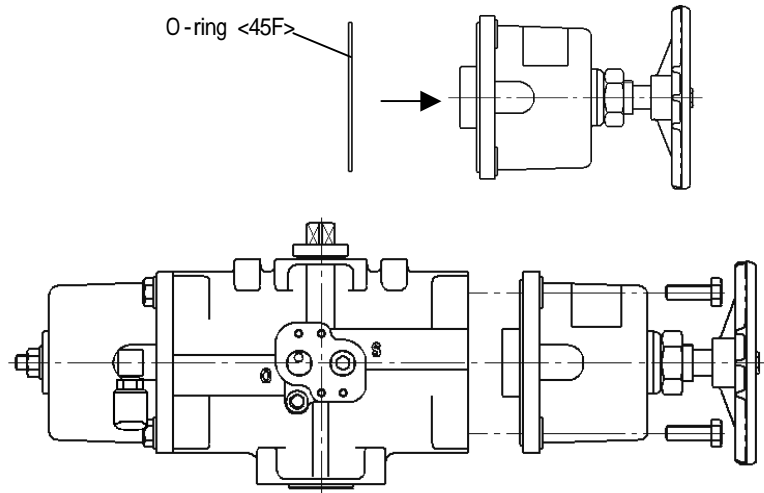
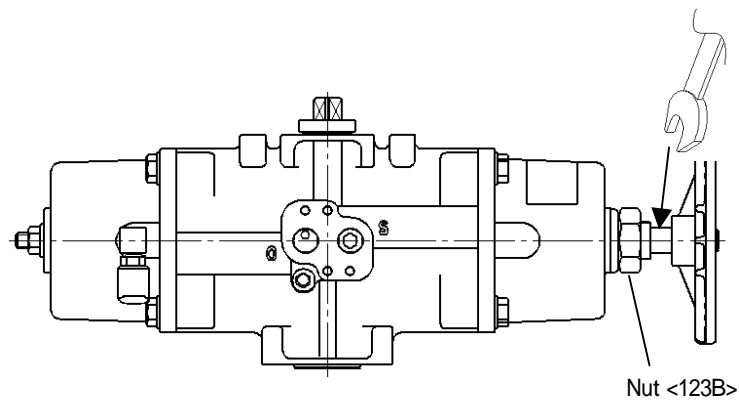

Fig.32
Fig.33
- (9) Assemble a FSW unit with Type FAS actuator, and check if the manual operation functions correctly to fully open or close the valve. Rotate the unit clockwise till the handwheel completely stops (Fig.32). If necessary, adjust the valve opening range by rotating the stopper with a spanner. Tighten the stopper with the hexagon nut afterwards (Fig.33).